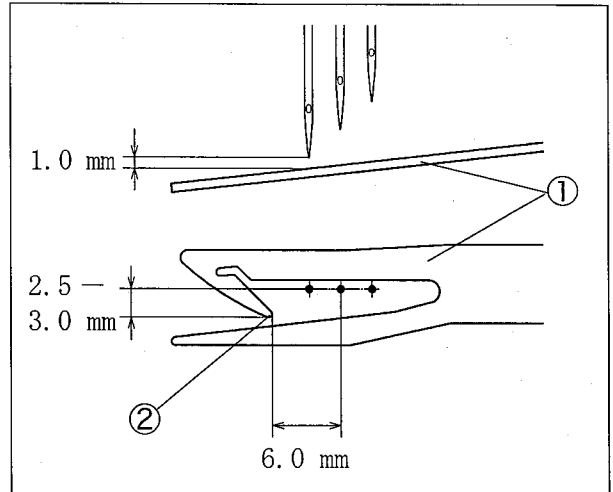

Fig. 29
- (1) Raise the needles at the highest points.
- (2) Loosen the screw ③ so that the hook ② of the wiper ① passes 2.5 - 3.0 mm from front of the center of the needle. (Figs. 29 and 30)
- (3) Loosen the screw ④ to pass the wiper ① 1.0 mm below the left needle. (Figs. 29 and 30)
Loosen the screw ⑤ of the wiper holder to adjust it. (Figs. 29 and 30)